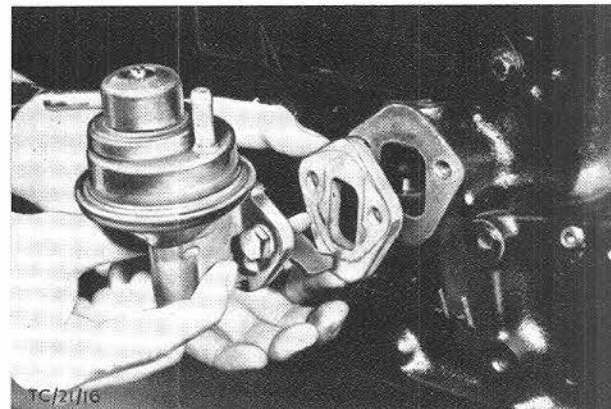

Fig. 62. Fit fuel pump.
69. Refit fuel pump complete with spacer. Torque bolts as specified in Technical Data, Fig. 62.